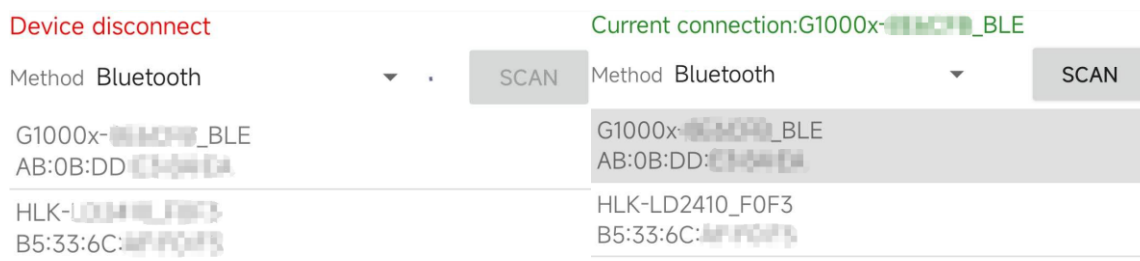

Figure 4-3 Bluetooth scan results and successful connection
- (4) Set the Connection method to Bluetooth and press Scan.
- (5) The G1000 will appear as G1000x-XXXXXX\_BLE. Select it and tap Connect, see Figure 4-3.
- (6) Once connected, the page header will turn **green**, confirming successful pairing, see Figure 4-3.